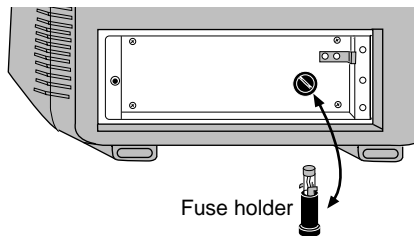

Figure 74
2. Use a slotted screwdriver to unlatch the fuse holder. Withdraw the holder and replace the fuse with the spare 5 amp fuse provided with the set (Figure 74). Reinsert the holder and securely latch it.